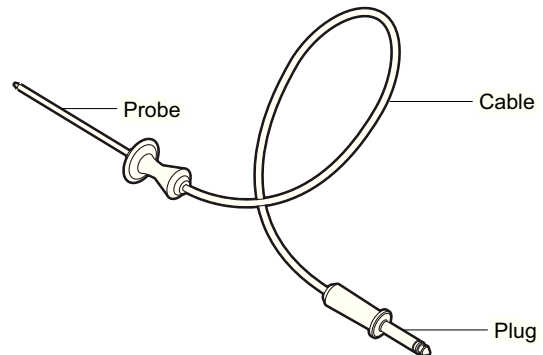

Figure 28: Meat Probe
2. Insert the plug end into the outlet (see *Figure 28*).